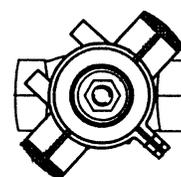

FIG. 2
1. Thread nut (1) onto valve stem (8) approximately 1".
2. Place flat washer (2) on top of nut (1).
3. Screw linkage (7) onto valve bonnet (9) until base of linkage contacts the base of valve bonnet.
4. Rotate linkage to the position shown in FIG. 2.